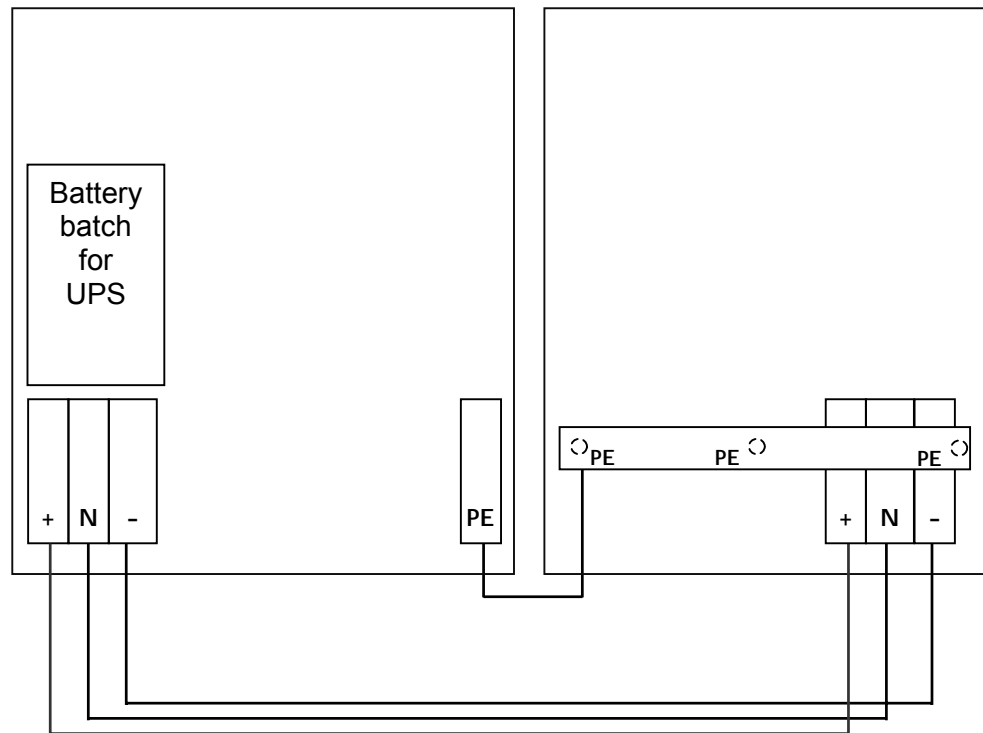

Figure 3.7 Connection of external batteries
It is normally recommended for redundant Multi-Cabinet systems to provide each UPS-Cabinet with its own separate battery. In this way the redundancy is extended also to the batteries. In the Figure 3.7 the drawing shows how to connect the batteries in the external battery cabinet CBAT-30C/S or CBAT-M and the UPS valuenet Midi Line.
- 6) Connect the corresponding + , N, - terminals between UPS and external battery cabinet according to drawing in Figure 3.7.